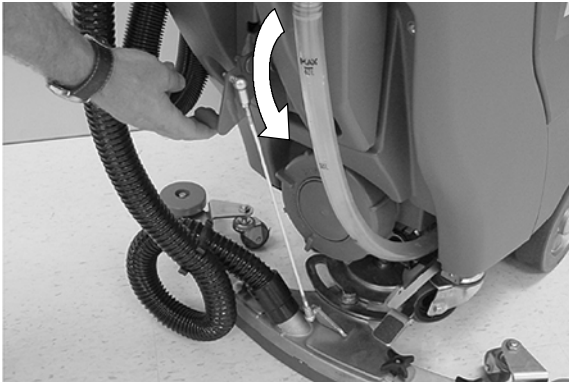

FIG. 15
4. Lower the squeegee assembly to floor by lowering the squeegee lift lever (Figure 15). *The vacuum motor will automatically turn on.*